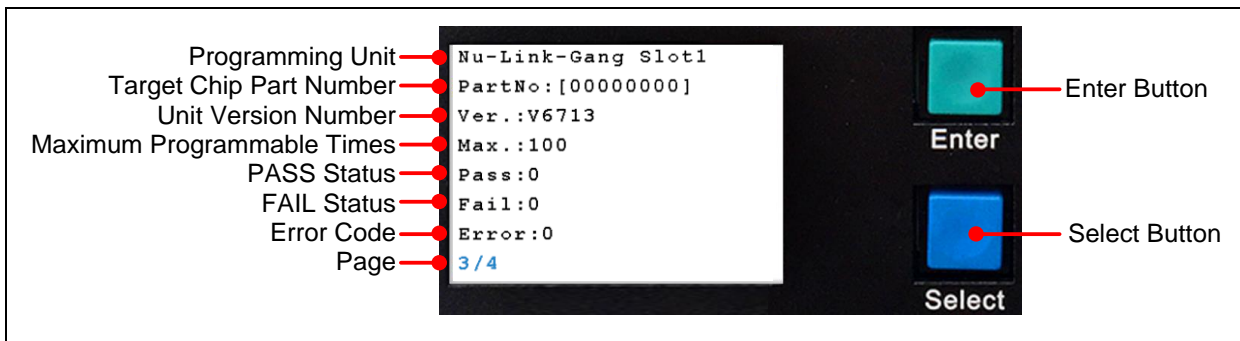

Figure 3-9 Page 3 - Programming Unit Information
- Page 3: Shows programming unit Information as Figure 3-9. List the programming chip's part number, programming unit's version number, maximum programmable times, PASS/FAIL status records, and error code. Press Enter button to go to the next page.